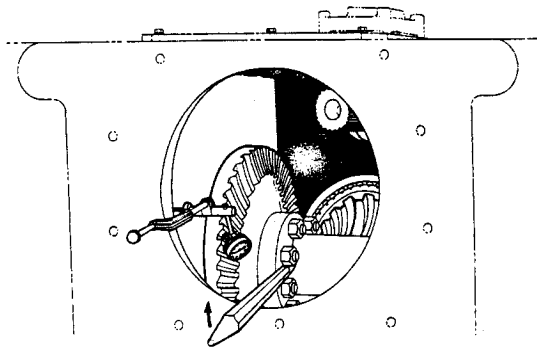

Fig. 48 -- Checking Backlash Between Bevel Gear and Bevel Pinion (T-70855)
- a. Refer to Fig. 48; position dial indicator as shown. Block bevel pinion solid. Insert small pry bar and rotate gear back and forth; total gear movement (gear freeplay), as indicated by reading on dial indicator, is backlash; if desired, dial indicator may be mounted so reading can be taken from bevel pinion. Check backlash at four points (90° apart) around gear; block bevel pinion solid each time if reading is being taken from bevel gear.